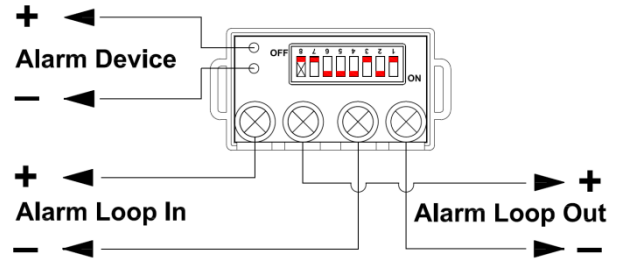

Fig. 1: 620 wiring connections
- Connect the conductors to the base terminals as shown in Fig. 1.